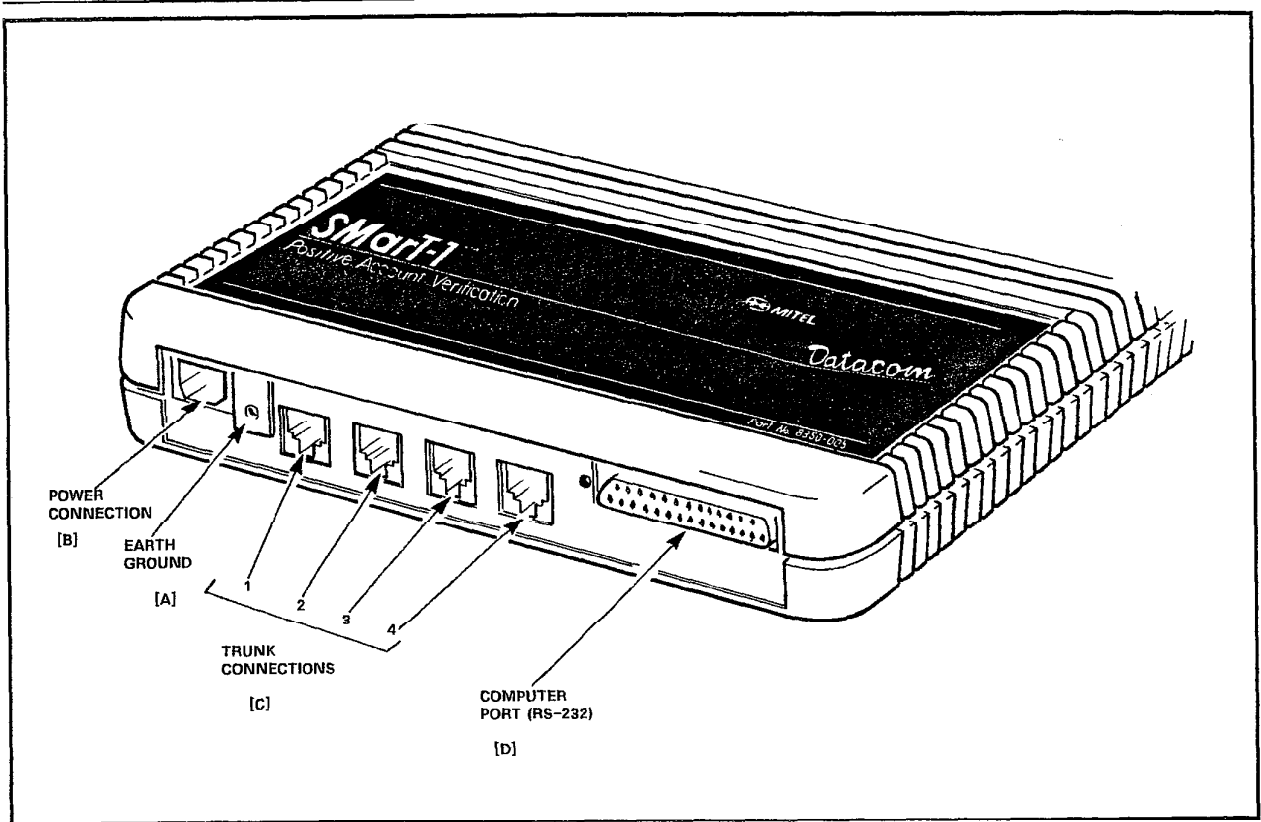

Figure 4-3, Controller I/O Connections
- 1) Refer to Figure 4-3. Connect a suitable Earth Ground to the screw mount [A] provided on the connector panel. This connection **MUST** be made for the unit to function properly.